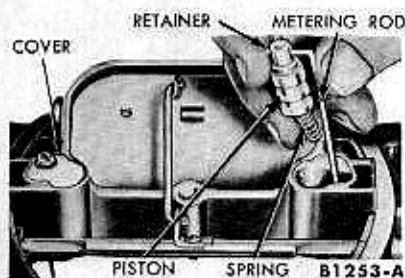

FIG. 40—Vacuometer Installation
27. Place the springs in the Vacuometer pistons, then place the pistons and metering rods in their chambers (Fig. 40). Install the Vacuometer cov-